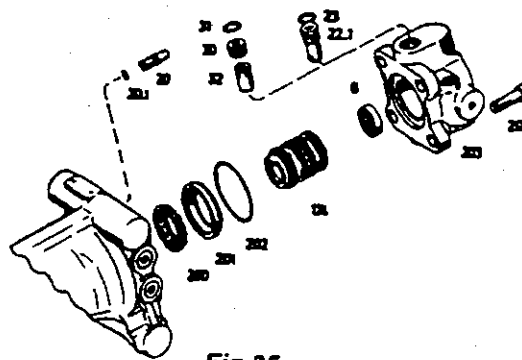

Fig.35
Screw in valve insert (22.1) - pressure limiting valve - with O-ring (23) (Fig.35)